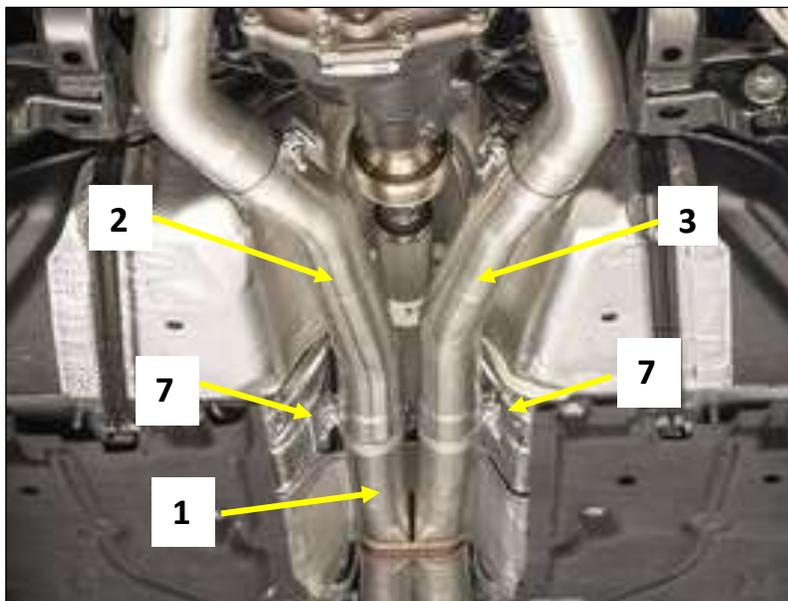

Figure 10
9. Install the Left Mid Pipe (2) on to the outlet of the Scavenger pipe (1). Align level with the ground and tighten the clamp to allow for adjustment (Fig. 10).
10. Install the Right Mid Pipe (3) on to the outlet of the Scavenger pipe (1). Align level with the ground and tighten the clamp (7) to allow for adjustment (Fig. 10).
17. Adjust the stick out of the tips to approximately $\frac{1}{2}$ " past the edge of the cutout in the rear valance. This adjustment is best made at the slip joint between the Scavenger pipe and the Mid Pipes - (1/2 and 1/3) (Fig. 10).